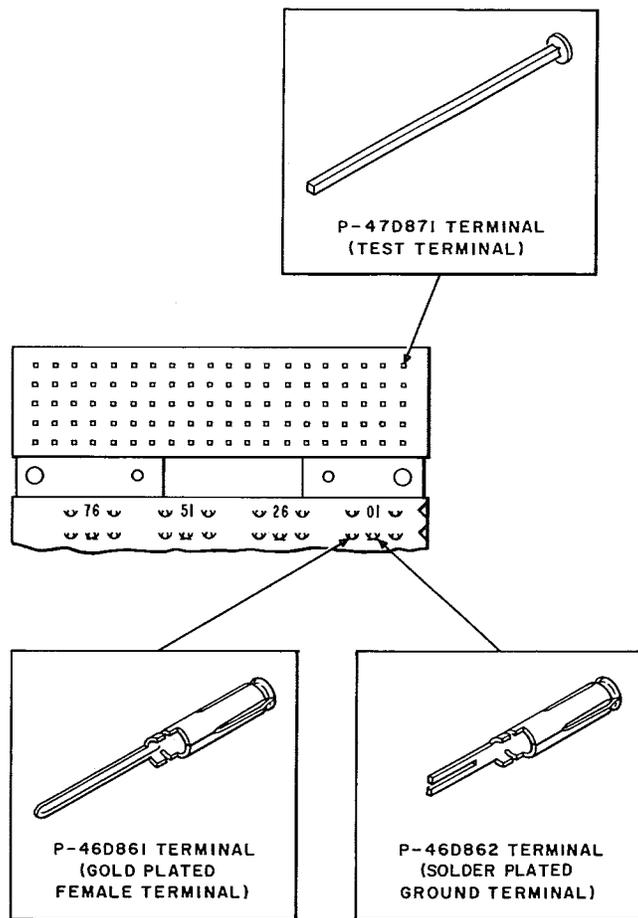

Fig. 1—302-Type Connector—Wiring Side
1.03 The procedures apply to the three types of terminals used on 302-type connectors as shown in Fig. 1.